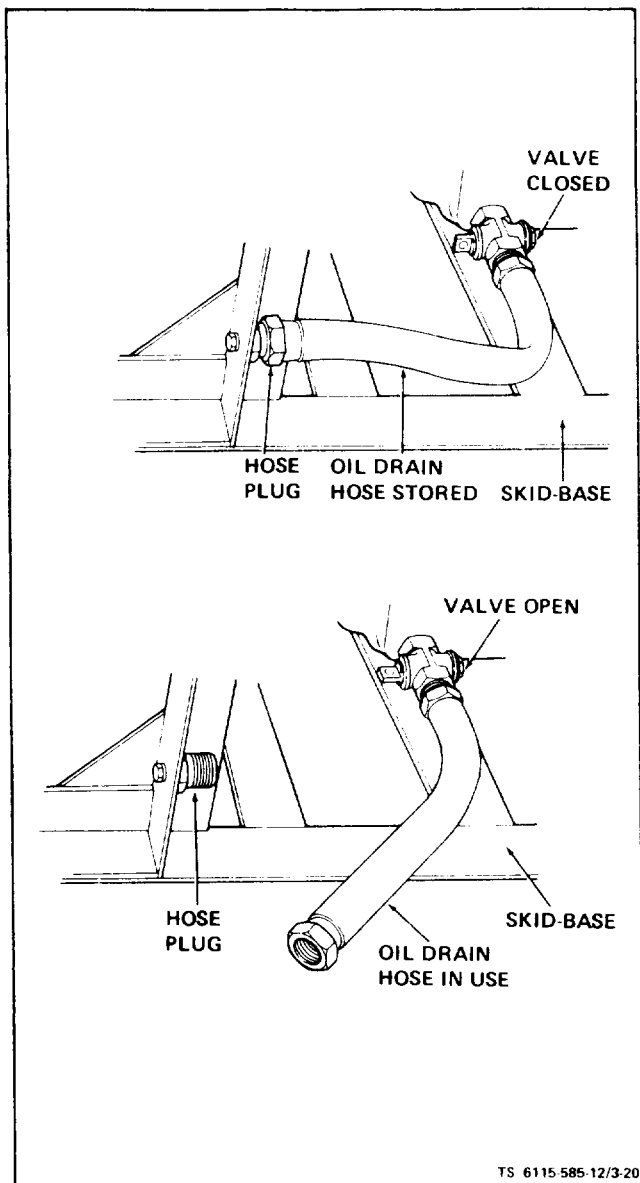

Figure 3-20. Oil Drain Hose
c. Oil Drain Hose (see figure 3-20). On ASK equipped generators, remove oil access door. Inspect oil drain hose for physical damage. Check that drain valve operates properly and does not leak when closed. Check that oil drain hose is properly stored when not in use.
b. Oil Change (see figure 3-20). On ASK equipped generators, remove oil access door.
(1) With drain valve closed, disconnect oil drain hose from the plug on the skid-base.
(2) Open drain valve and drain oil into a container having at least a 7 quart capacity.
(3) Close drain valve.
(4) Connect oil drain hose to plug on skid-base.